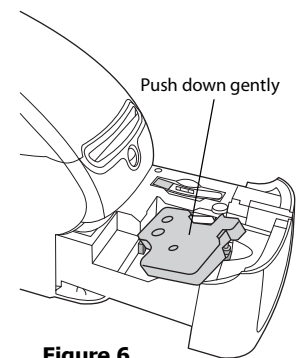

Figure 6
- 3 Insert the cassette and press firmly until the cassette clicks into place. Make sure label and ribbon are positioned correctly. See Figure 6.